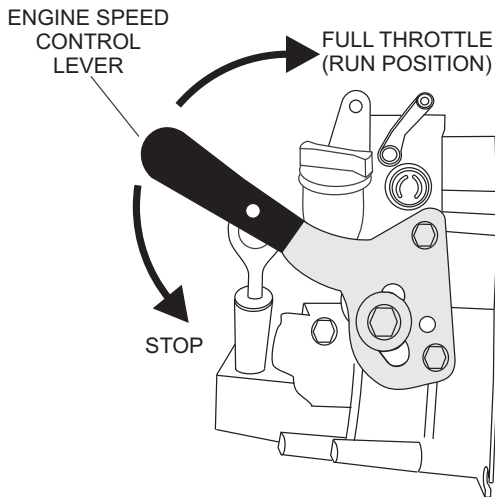

Figure 12. Engine Speed Control Lever
1. Set the *Engine Speed Control Lever* (Figure 12) to a position half way between start and stop.
10. Move *speed control lever* to full speed position for maximum engine speed. (See Figure 12)